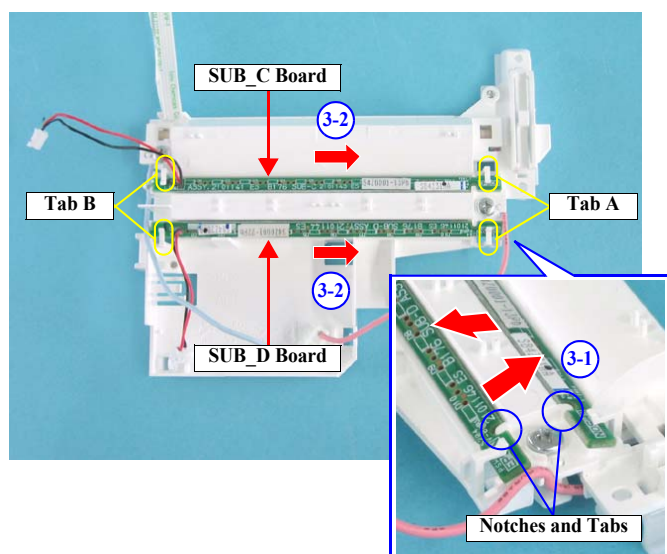

Figure 4-42. Removing the SUB\_C Board and SUB\_D Board
- When installing the SUB\_C Board and SUB\_D Board, match the notches and tabs as shown in Figure 4-42.